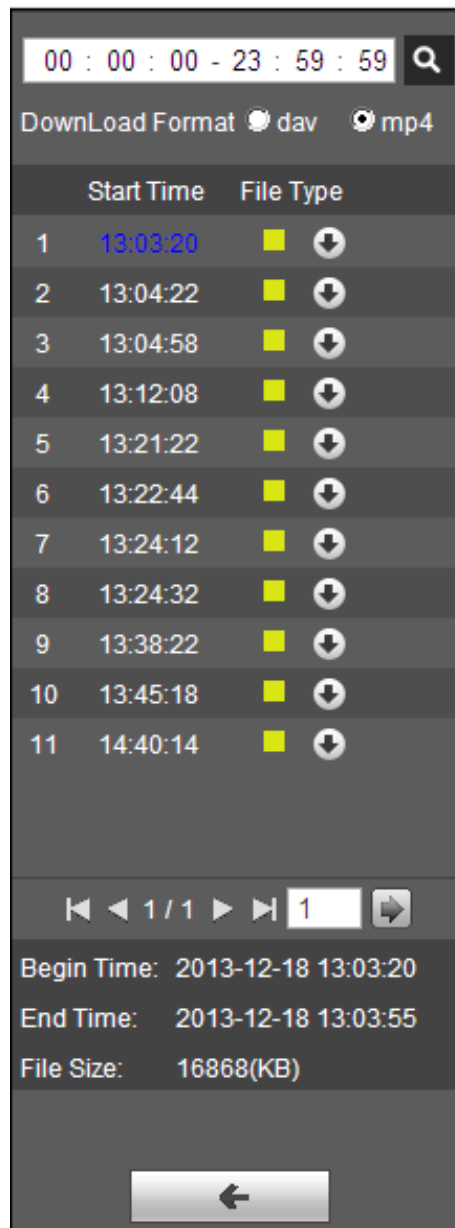

Figure 3-8
Step 4. Double click the file in list, playback this file and display file size, start time and end time. See Figure 3-8.